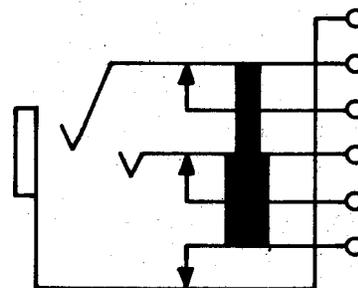

Fig. 1—267-Type Jack
2.01 **267A, C, AM, and CM:** These single-mounted jacks (Fig. 1) are used with 150, 184, 213, 262, 310, 320, 331, 338, and 349 plugs.